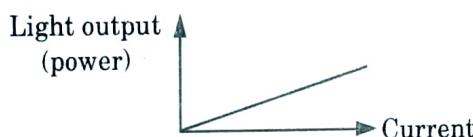

Fig. 3.6.1. An ideal light output against current characteristics for an LED.
1. The ideal light output against current characteristics for an LED is shown in Fig. 3.6.1. It is linear corresponding to the linear part of injection laser optical power output characteristics before lasing occurs.